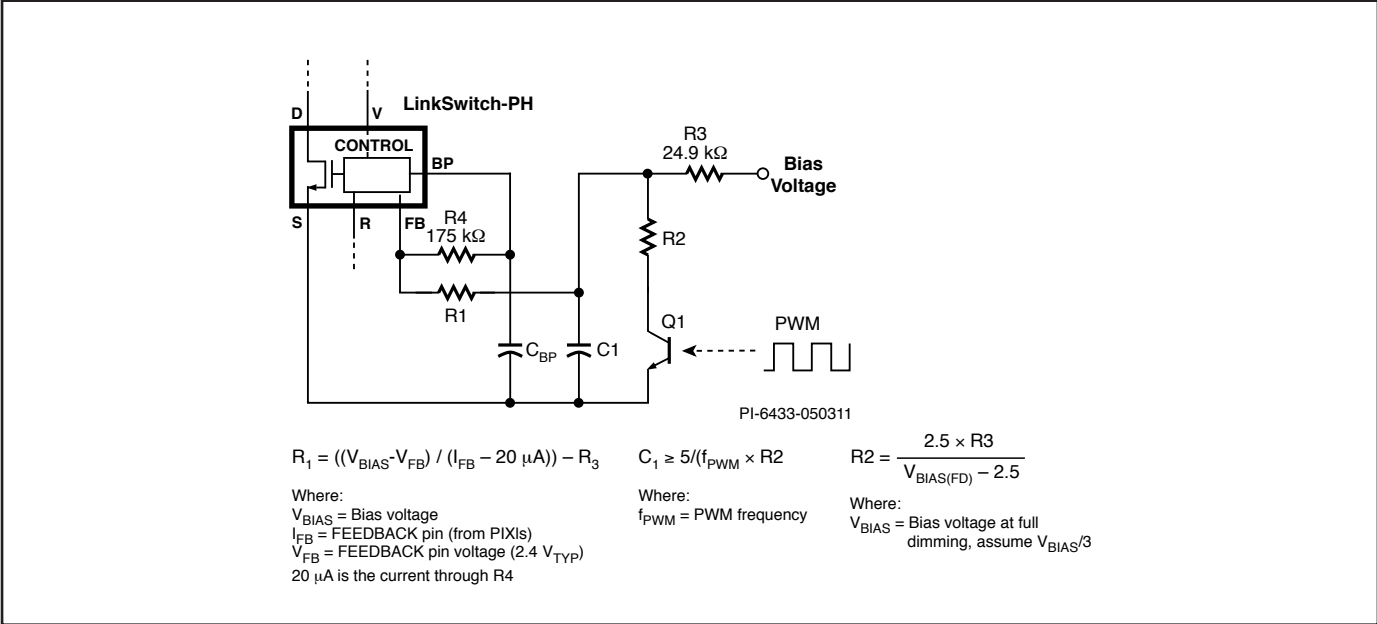

Figure 25. Circuit Configuration for PWM Dimming.
Figure 25 shows a circuit configuration for implementing PWM dimming which converts the digital signal into an analog current which adjusts the FEEDBACK (FB) pin current and therefore the output current. The dimming range achievable is 16:1.